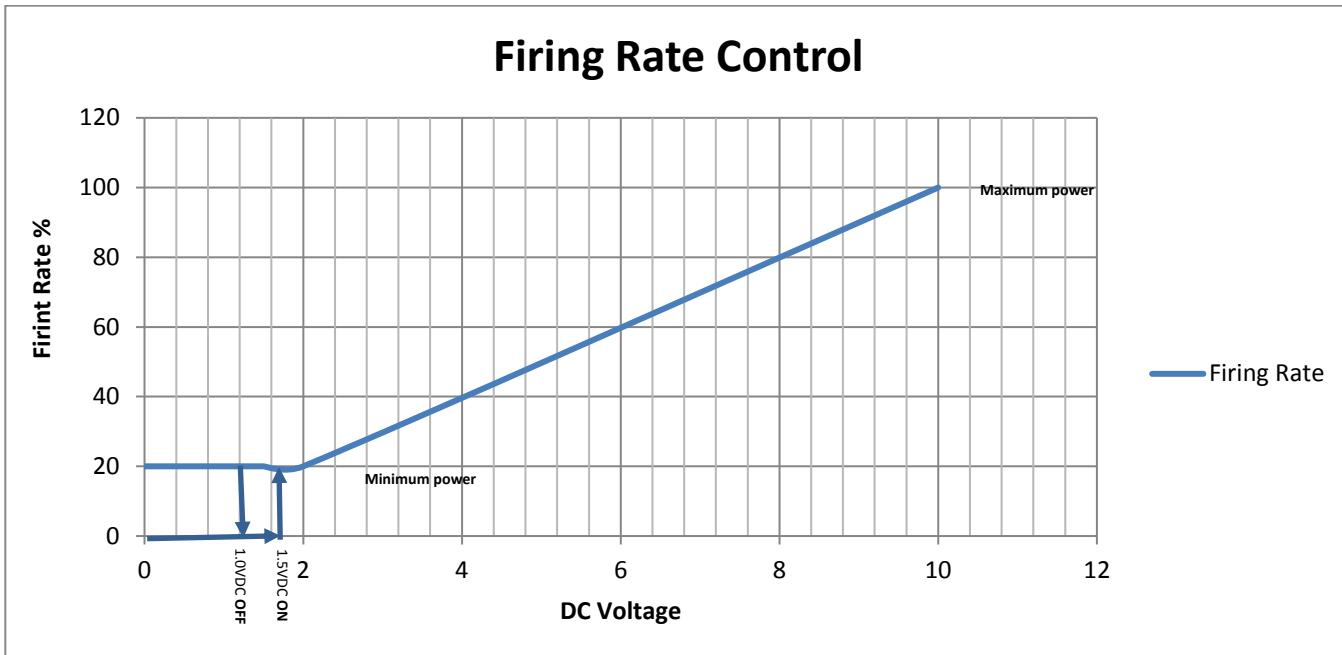

Figure 3
| Figure 3 | 6 |
- A heat demand is triggered when the input signal is 1.5VDC and above. Heat demand ends when the signal is below 1VDC. See Figure 3.